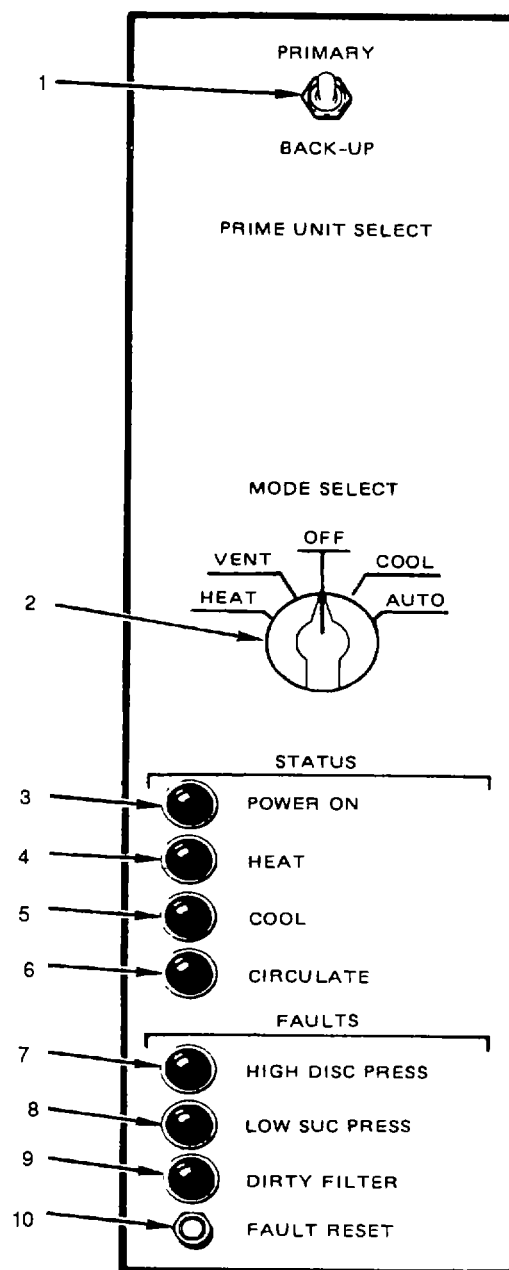

Figure 2-1. Controls and Indicators
**2.2 OPFRATOR'S CONTROLS AND INDICATORS.** See fig 2-1 for a general description of the controls and indicators with which an operator will normally be concerned For specific operating instructions, see Sections III and IV of this chapter.
- a. PRIME UNIT SELECT Toggle Switch (1) Allows selection of unit as primary or backup.
- b. MODE SELECT Rotary Switch (2). Allows selection of mode of operation (see paragraph 2.8 through 2.12).
- c. POWER ON (3) (green) Indicates power available.
- d. HEAT (4) (green) Indicates HEAT mode on.
- e. COOL (5) (green). Indicates COOL mode on
- f. CIRCULATE (6) (green) Indicates VENT mode on.
- g. HIGH DISC PRESS (7) (red) Indicates pressure too high in discharge line
- h. LOW SUC PRESS (8) (red) Indicates pressure too low in suction line.
- i. DIRTY FILTER (9) (red) Indicates return air filter requires servicing.
- j. FAULT RESET Push Button (10) Used to reset circuits after unit has been repaired..